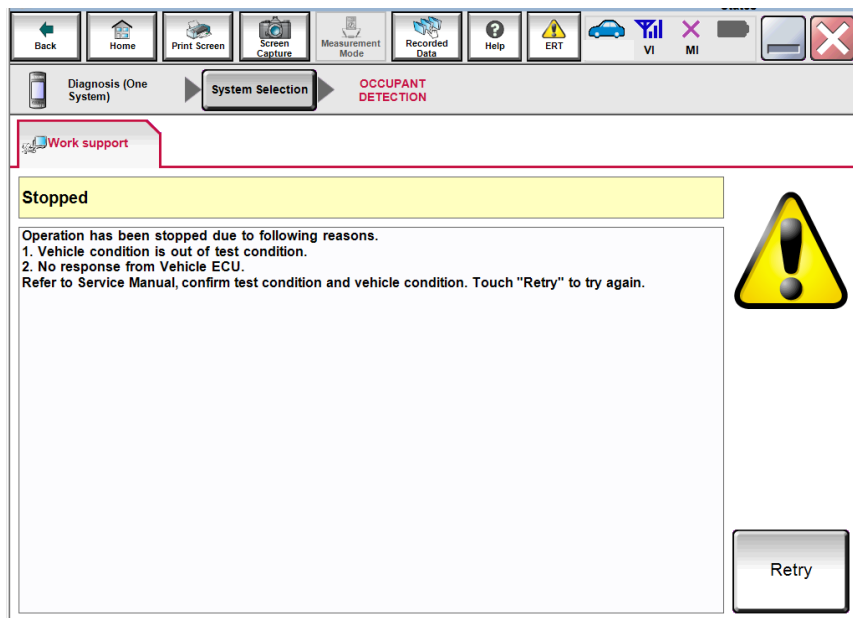

Figure 14
- After selecting **Start**, if Figure 14 is displayed: